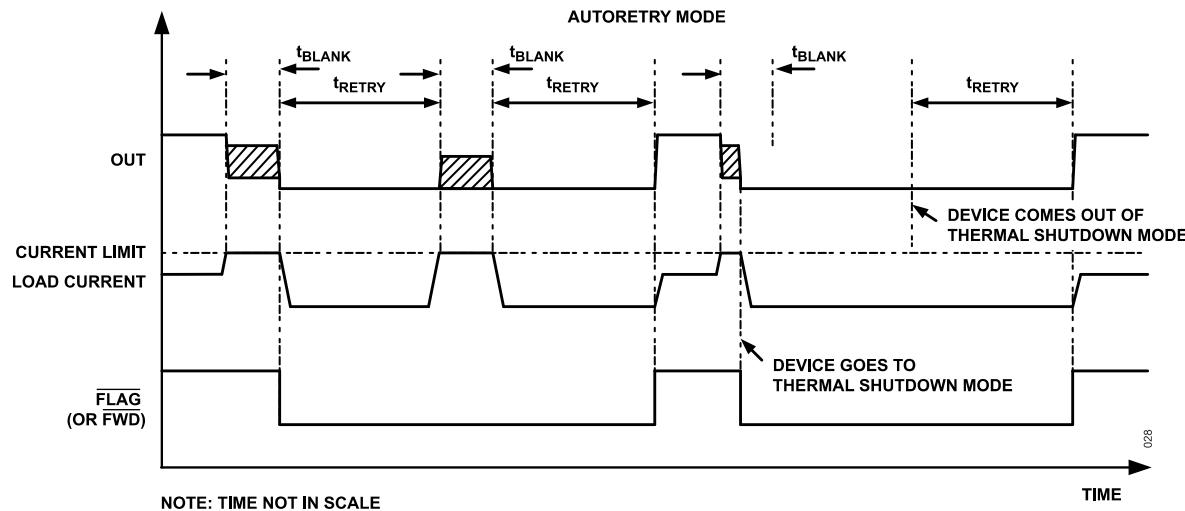
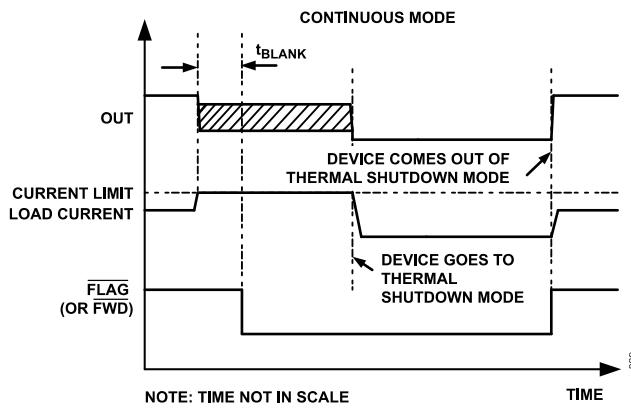
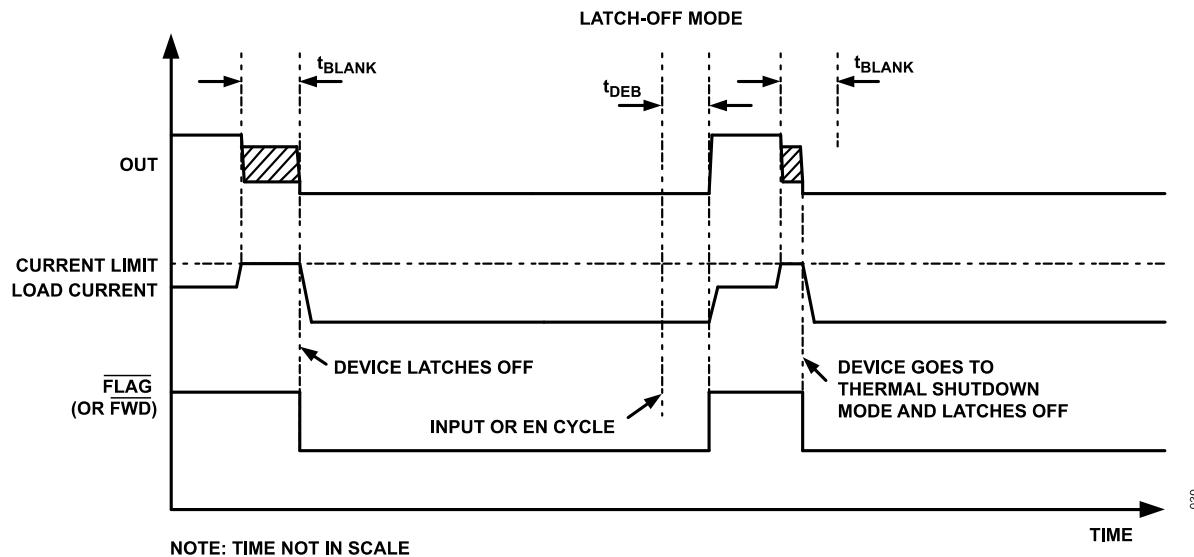

Figure 28. Autoretry Fault-Timing Diagram
Figure 29. Continuous Fault-Timing Diagram
Figure 30. Latch-Off Fault-Timing Diagram
With a 40ms (typ) t_{BLANK} and 600ms (typ) t_{RETRY} , the duty cycle is 6.25%, resulting in a 93.75% power reduction when compared to the switch being on the entire time. Figure 28 depicts typical behavior in the autoretry current-limit mode.
In continuous current-limit mode, when the current through the device reaches the current limit threshold, the device limits the output current to the programmed current limit. The \overline{FLAG} (or \overline{FWD}) pin asserts if an overcurrent condition is present for t_{BLANK} and deasserts when the overload condition is removed. Figure 29 depicts typical behavior in the continuous current-limit mode.
In latch-off current-limit mode, when current through the device reaches the current-limit threshold, the t_{BLANK} timer begins counting. The FLAG (or FWD) pin asserts if an overcurrent condition is present for t_{BLANK} . The timer resets when the overcurrent condition disappears before t_{BLANK} has elapsed. The switch turns off and stays off if the overcurrent condition continues beyond t_{BLANK} . To reset the switch, either toggle the control logic (EN) or cycle the input voltage. Figure 30 depicts typical behavior in latch-off current-limit mode.
The thermal limit behaves similarly to the current limit. In autoretry mode, the thermal limit works with the autoretry timer. When the junction temperature falls below the falling thermal-shutdown threshold, devices turn on after the retry time. In latch-off mode, the devices latch off until power or EN is cycled. In continuous mode, the devices only disable while the temperature is over the limit. There is no blanking time for thermal protection. Figure 28, Figure 29, and Figure 30 depict typical behavior under different current limit modes.